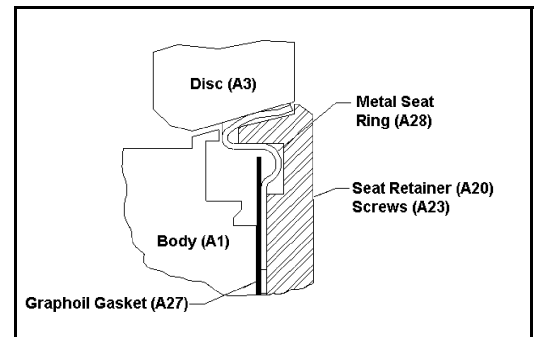

Figure 14—Intelli-Seal™ Seat Option IS1 & IS2
- ◆ On valve sizes 2" through 12", remove the disc pin set screw (A24), and drive the disc pin (A5) from the disc with a small punch. (See Figure 14—"Disc Pin Assembly" on page 25.) Do not damage the shaft with the punch.
On valve sizes 2" through 24", the FT bearing option consists of two bearing carriers (A13), each with a replaceable bearing liner (A7). Class 150 valve sizes 6" and larger, and Class 300 valve sizes 5" and larger also include a thrust bearing (A8). See Figure 14—"Disc Pin Assembly" on page 25.
- b. Place the disc pin (A5) in the hole in the disc (A3) as shown in Figure 14 on page 25, and tap the end of the pin lightly to seat the pin against the flat on the shaft (A4). A new set screw (A24) is required.
- e. As shown in Figure 14 on page 25, stake the end of the set screw threads once with a pointed punch to secure the set screw in position.
- c. Use two new pins, and turn the pins into the threaded holes in the disc (A3), and against the slots in the shaft (A4) as shown in Figure 14 on page 25.
- e. As shown in Figure 14, stake the screw threads on each disc pin once with a pointed punch to secure the pins in position.